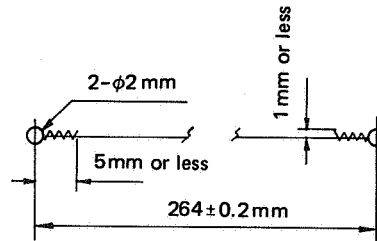

Figure 4-68
- (1) Remove the right and left panels. Remove the old corona wire.
- (2) Cut off about 30 cm of corona wire. Form a 2-mm loop at one end by wrapping the wire around a small Allen wrench and twisting the loop closed. Make a loop of the same size at the other end so that the total length of the wire is as shown in Fig. 4-68.